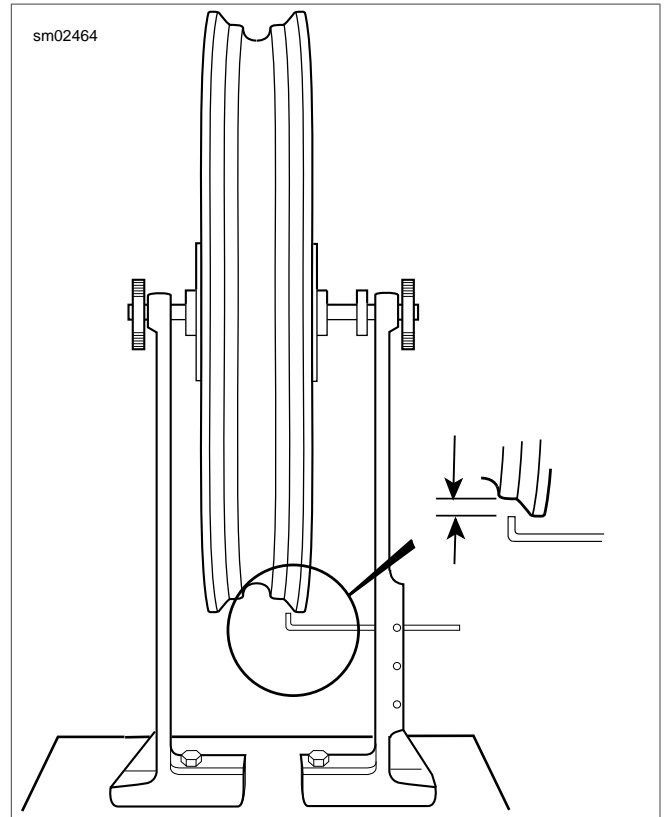

Figure 2-54. Truing Rim Radially
- See Figure 2-54. Adjust truing stand gauge to the rim's tire bead seat as shown. The rim should be trued within 0.030 in. (0.76 mm).